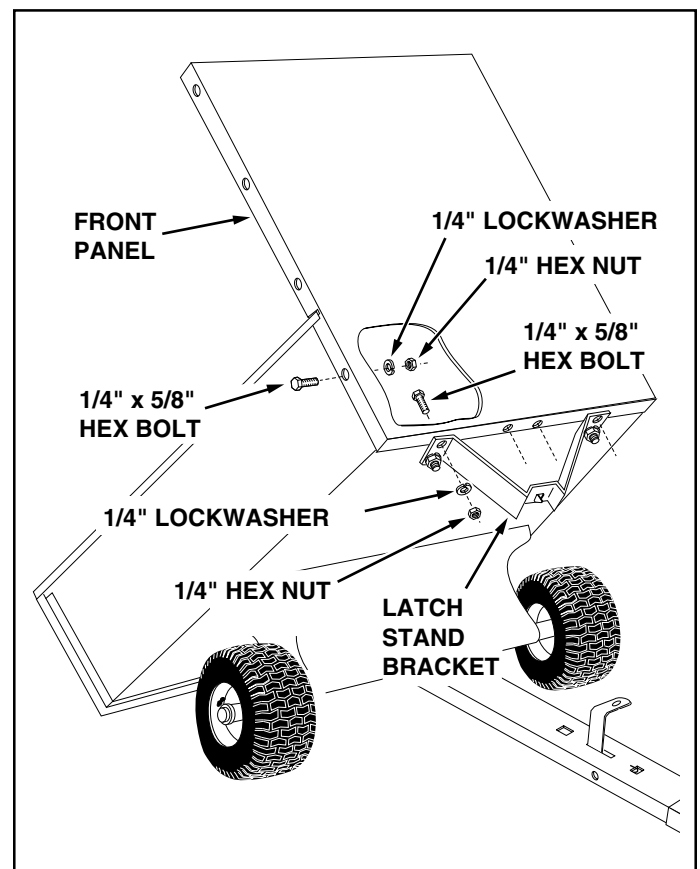

FIGURE 10
17. Release the latch lock lever and tilt the cart bed back. See figure 10.
18. Assemble the front panel to the cart bed, sliding the bottom lip of the panel in between the cart bed and the latch stand bracket. Fasten the panel to the bottom and sides of the cart bed using six 1/4" x 5/8" hex bolts, 1/4" lockwashers and 1/4" hex nuts. **Tighten.** See figure 10.